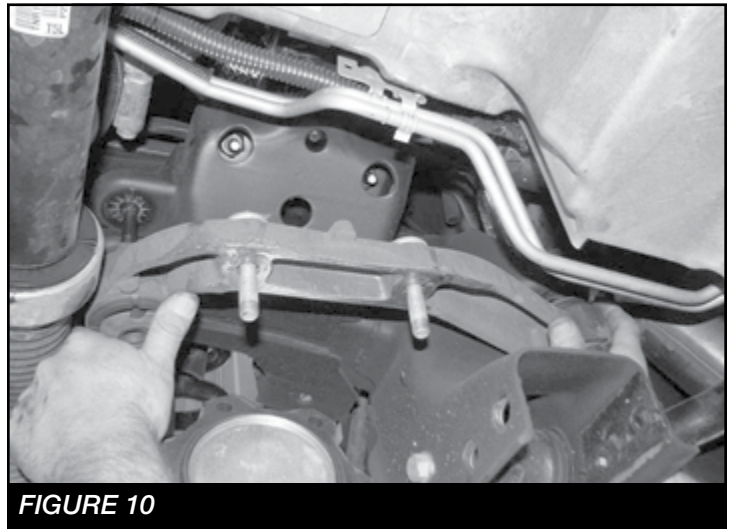

FIGURE 10
13. Locate the factory passenger side diff mount and remove. Retain Hardware. **SEE FIGURE 10**